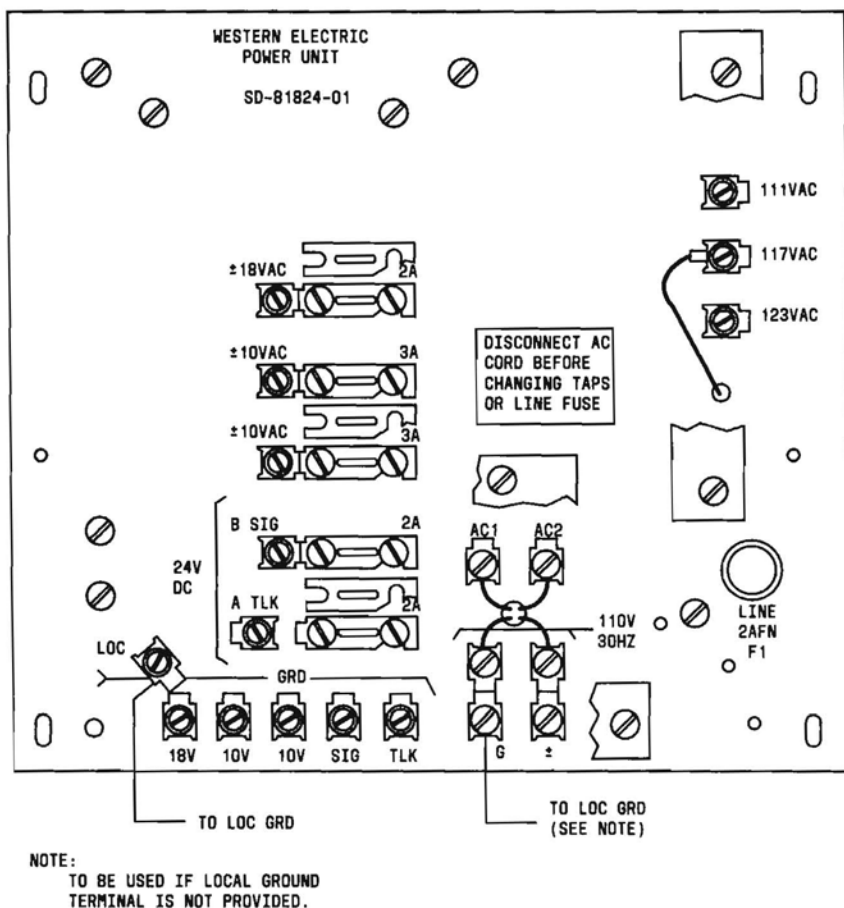

Fig. 5—Wiring Connection for 20A2 Power Unit
### 4. CONNECTIONS (Fig. 5)
- 4.05** Connect LOC GRD as shown in Fig. 5.
the station ground wiring leads should be connected to their *designated* ground terminals (Fig. 5).